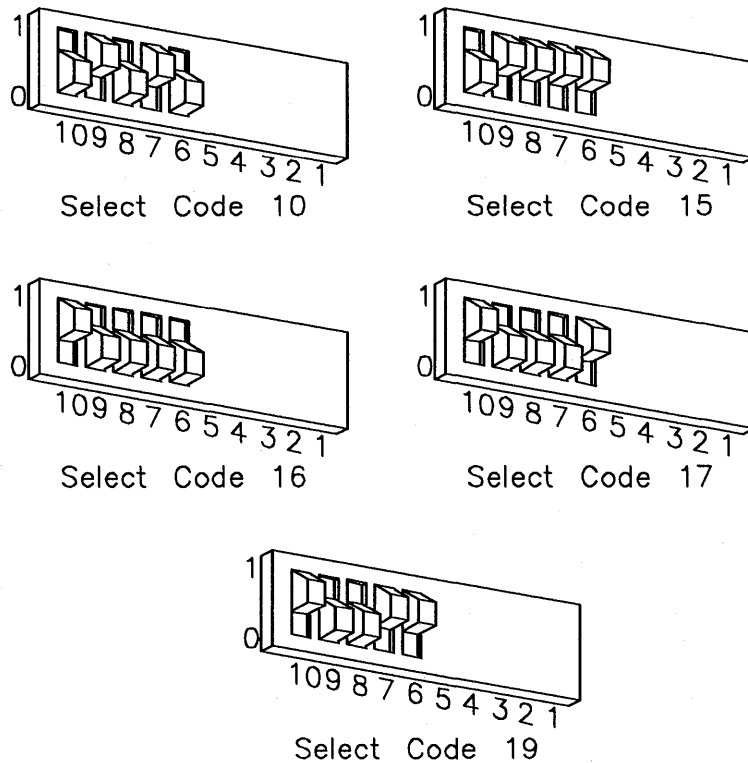

Figure 10-11.
3. Set these switches to one of the five select codes given in Figure 10-11, unless you have used them elsewhere. Refer to the installation note that came with the interface if you need additional switch settings.